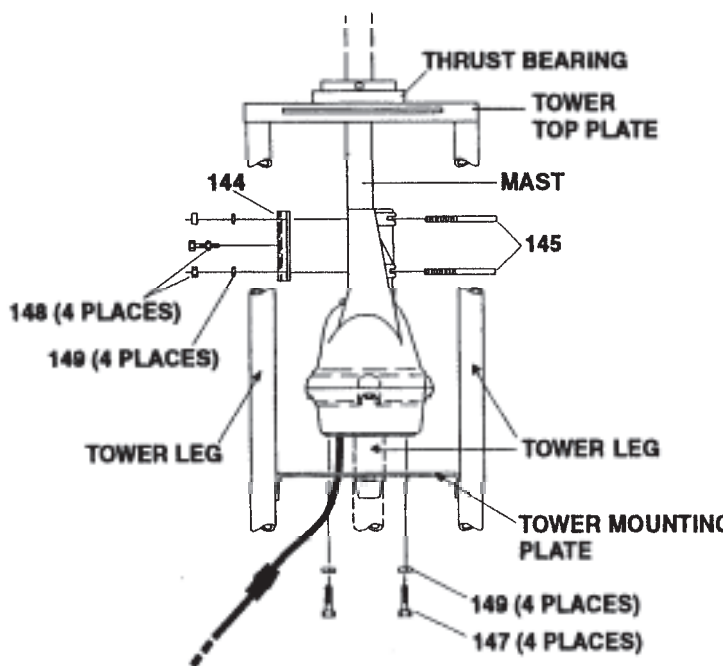

Figure 4
There are three general types of installations (see Figures 4, 5 and 6).
The rotator is mounted inside a tower (see Figure 4) to the flat tower plate by means of four (4) bolts furnished in the hardware kit. Use the following procedure:
- The rotator is attached to the tower plate by means of four (4) bolts and lockwashers (see Figure 4). The flat tower plate must be drilled in four (4) places using the template provided with this manual unless the tower plate is already properly drilled.
- Tighten the four (4) bolts, but not to final tightness. Observe how the rotator turns. It must rotate in such a manner as to turn the mast concentrically in the thrust bearing.
5. Trial assemble the mast to the top of the rotator using the U-bolts, nuts and lockwashers through the rotator and clamp plate as shown in Figure 4. The maximum mast diameter that may be used is 21/16" O.D. We recommend 1 1/2" nominal steel pipe with 1.9" O.D. in standard wall thickness of .145". For stacked arrays or very large beams, we recommend extra heavy-duty wall thickness of .200". Both steel pipes can be purchased to specification ASTM120.